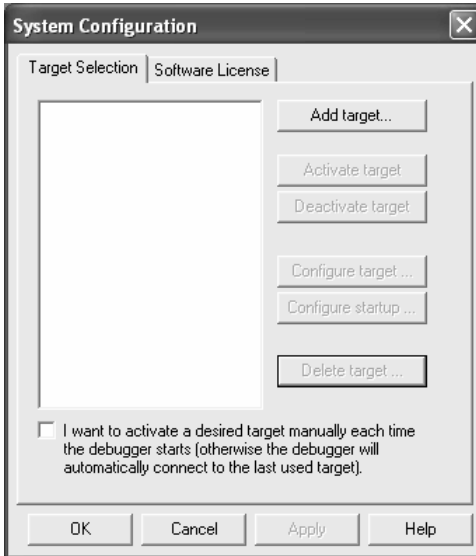

FIGURE 2 Creating a target in the debugger.
3. Start Chameleon Debugger and in the System Configuration window, click the **Add Target** button (Figure 2).